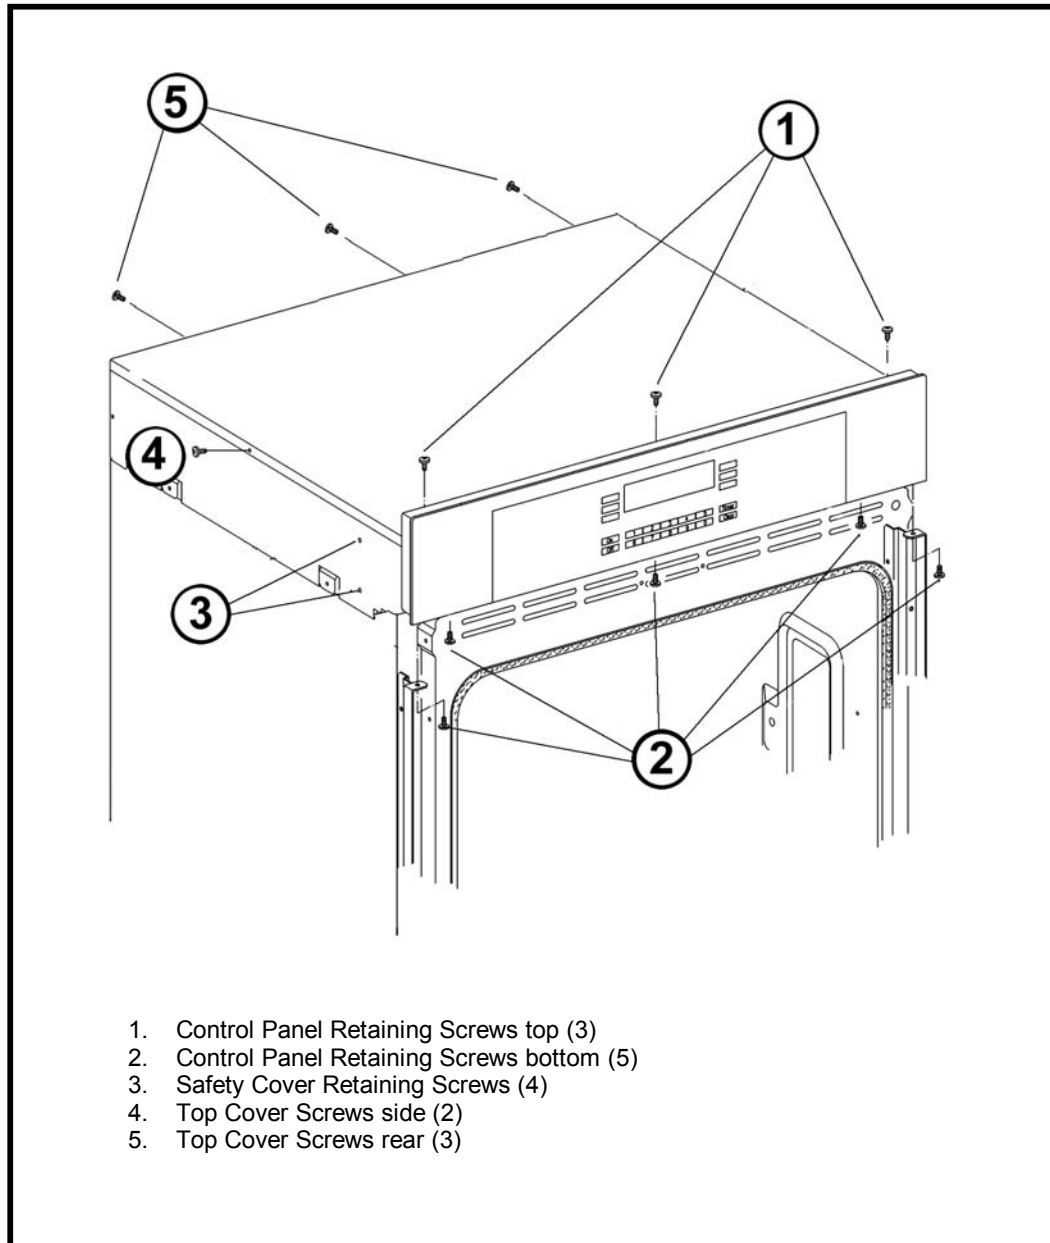

Figure 5-5: Control Panel, Safety Panel and Top Cover Retaining Screws
1. Refer to Figure 5-5.
5. Refer to Figure 5-5, Remove the Top Cover Side Retaining Screws (Item 4) and the Top Cover Rear Retaining Screws (Item 5)